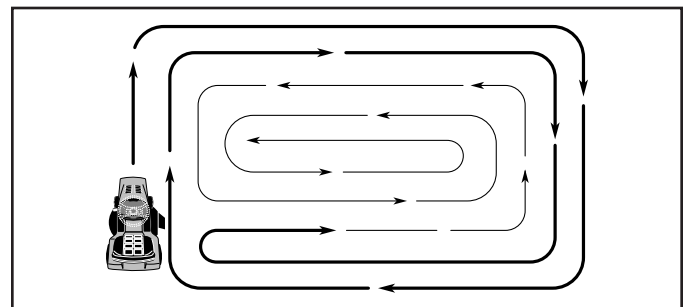

Fig. 19
- When mowing large areas, start by turning to the right so that clippings will discharge away from shrubs, fences, driveways, etc. After one or two rounds, mow in the opposite direction making left hand turns until finished (See Fig. 19).